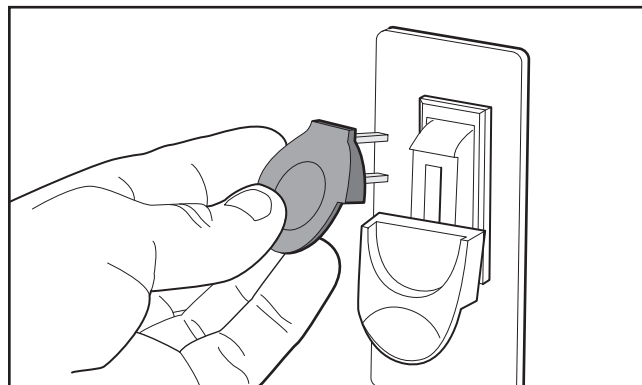

Figure 32. Removing switch key from paddle switch.
4. Remove switch disabling key, as shown in **Figure 32**.